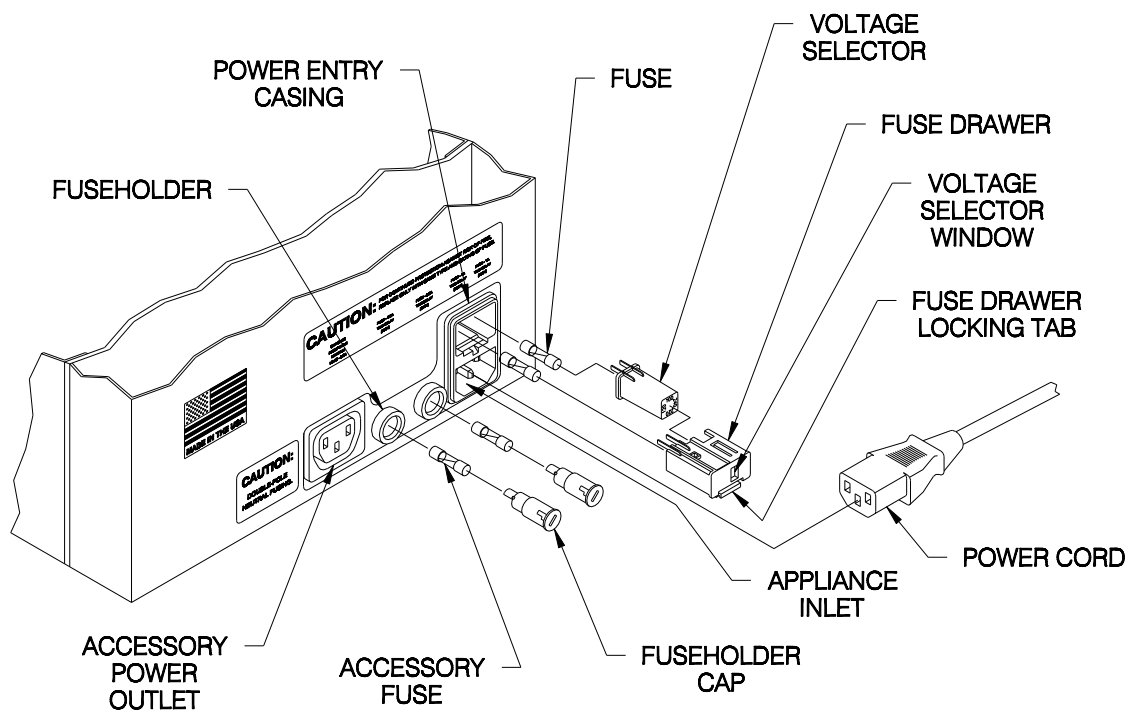

Figure 3.1 Power Entry Panel
The FUSE DRAWER located on the Power Entry Module contains two LINE FUSES. (Refer to **Figure 3.1.**) The neutral and hot lines of power are fused. Both LINE FUSES must be intact for the FD 280-20 to operate properly.
Two FUSEHOLDERS are located on the Power Entry panel between the APPLIANCE INLET and the ACCESSORY POWER OUTLET. (Refer to **Figure 3.1.**) The FUSEHOLDERS hold two ACCESSORY FUSES which protect the ACCESSORY POWER OUTLET. As with the LINE FUSES mentioned previously, both the neutral and hot lines are fused. Both ACCESSORY FUSES must be intact for the FD 280-20 to properly supply power to in-line equipment.
1. Plug the POWER CORD into the APPLIANCE INLET.. (Refer to **Figure 3.1.**)